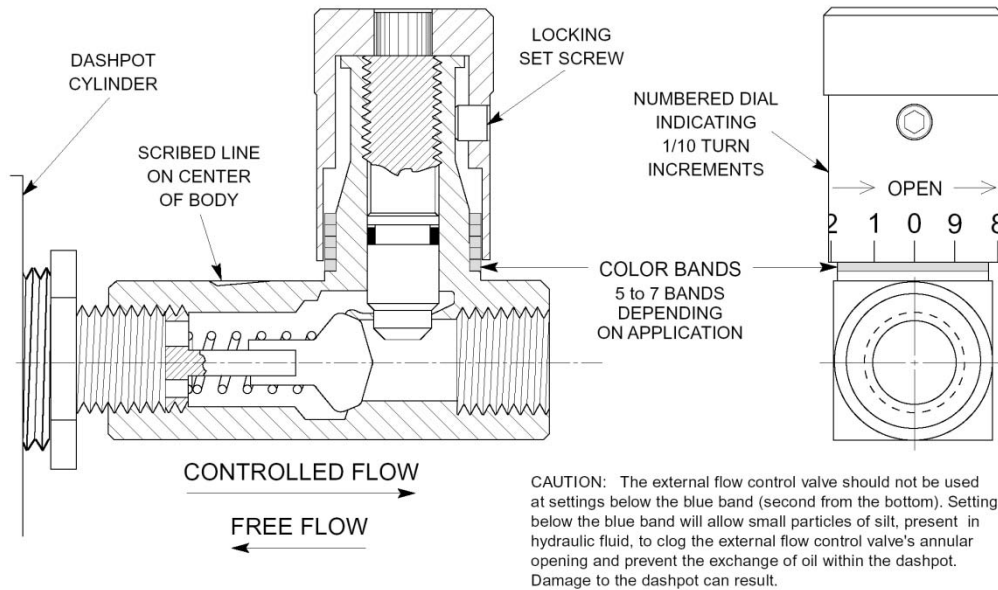

Figure 9. Adjustment of Flow Control Valve
7. If pressure surging is observed on the valve opening or if water hammer noises exist on valve closure, the appropriate external flow control valve can be gradually turned to a smaller number setting until optimum valve operation is achieved, see Figure 9. The unit is designed to control the operating time between 5 and 30 seconds.